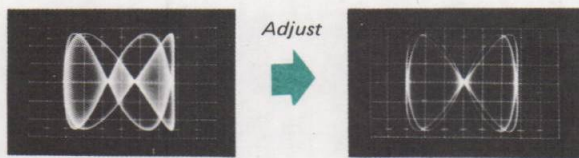

Fig. 3-7. Lissajous pattern
- (c) Turn the pilot-signal (19 kHz) phase control to obtain an in-phase and stable lissajous pattern as shown in Fig. 3-7.